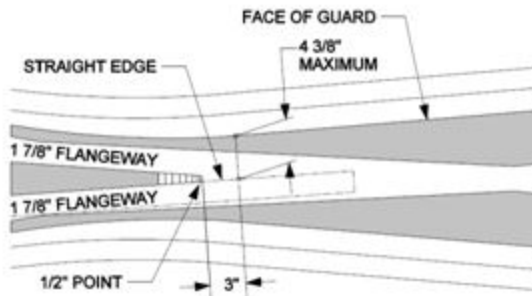

Figure 107A *Measure SMSG Frog*
- Check guard face for excessive wear prior to working on SMSG frog. (See Figure 107A)